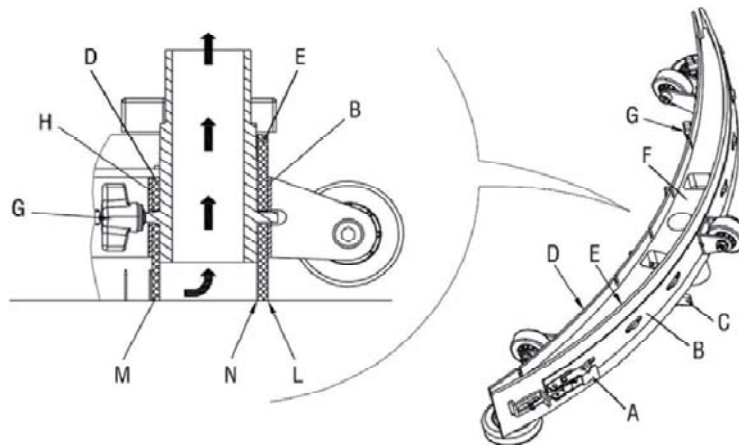

Fig. 4
1. Clean the squeegee (Fig. 4) as shown in the previous paragraph.
2. Check that the edge (M, Fig. 4) of the front blade (D) and the edge (N) of the rear blade (E) lay down on the same level, along their length; otherwise adjust their height according to the following procedure: